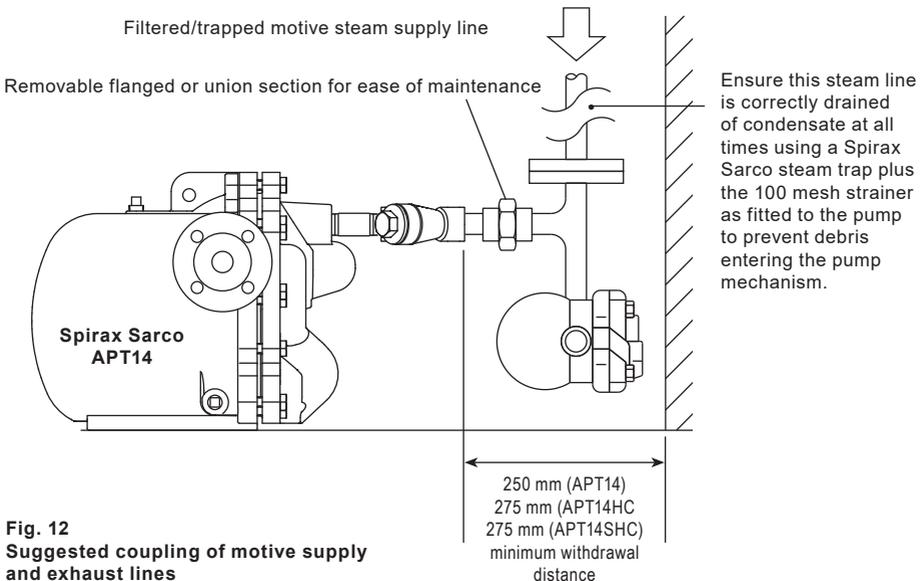

Fig. 12
To prevent condensate backing up into the equipment being drained, it is recommended that the inlet pipework is sufficiently sized to accumulate condensate during the pump's discharge cycle. Generally a length and diameter of pipe to accommodate the following condensate capacity will be sufficient: 4 litres (1.1 gallons) for an APT14 or 8 litres (1.76 gallons) for an APT14HC and APT14SHC. It is recommended this condensate reservoir is situated at least 1 pipe diameter below the process outlet but as high as possible above the APT inlet (up to 1 metre (40")). It is essential that a Spirax Sarco Y-type strainer is fitted at the condensate inlet of the APT14, APT14HC and APT14SHC, as shown in Figure 12.
4.3 Connections (refer to the installation diagram, Figure 12)
| H | 100 mesh strainer screen and cap gasket for the Fig 12/14 strainer (see IM-S60-17) | 28 |